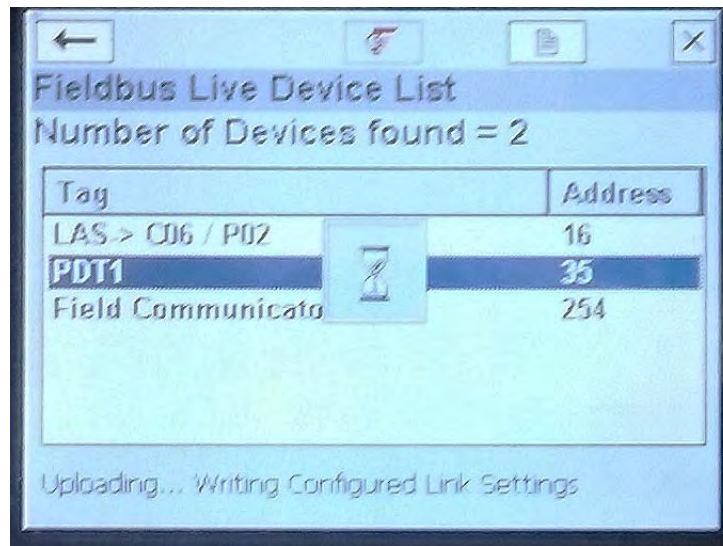

Figure 99 Device
2. Select the device (Figure 99).